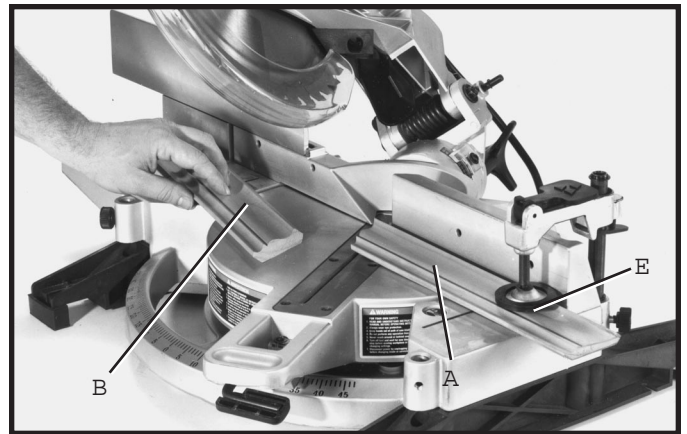
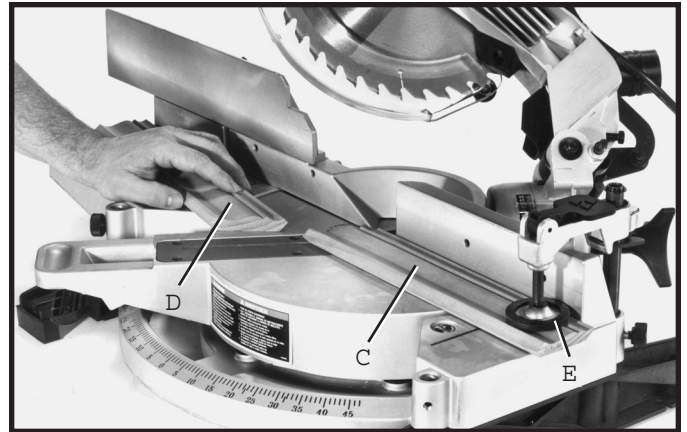
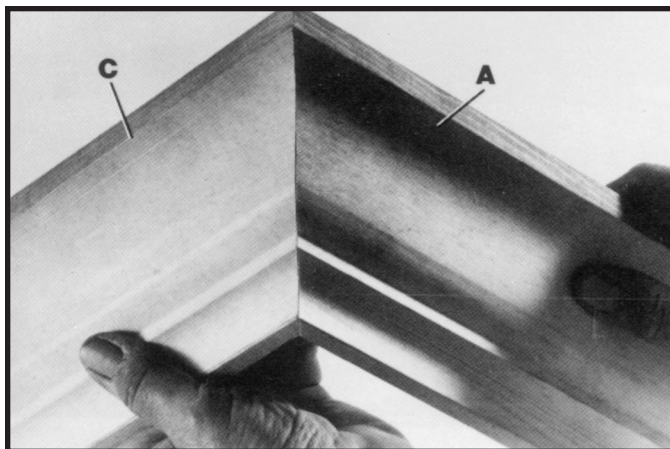
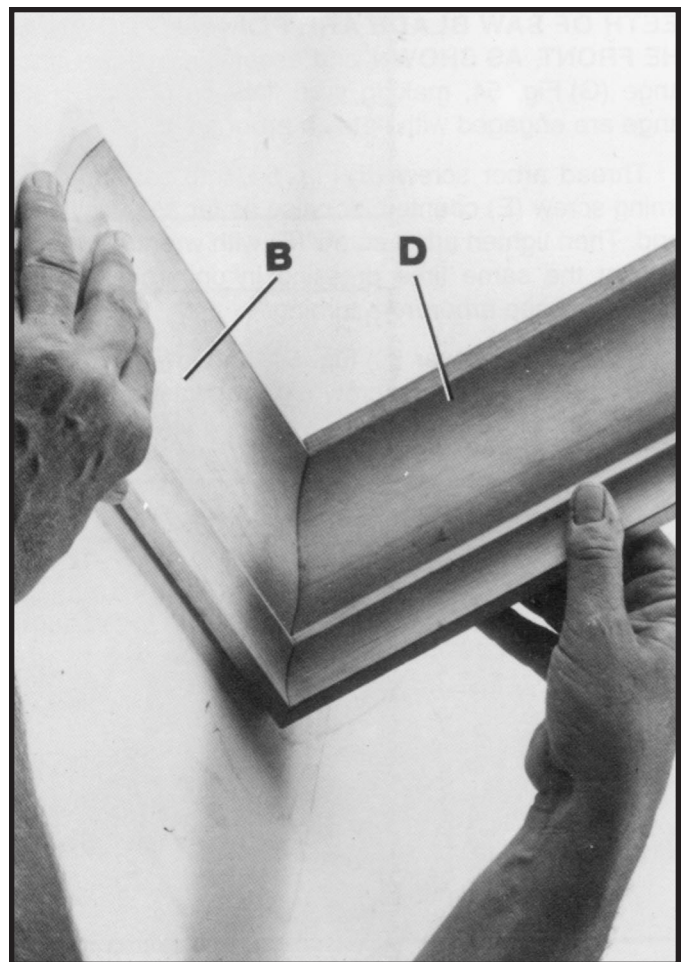

Fig. 49
Fig. 50
Fig. 51
Fig. 52
3. Place the crown moulding on the table with the CEILING EDGE of the moulding against the fence, and make the cut, as shown in Fig. 49. NOTE: The piece of crown moulding used for the outside corner will always be on the right hand side of the blade, as shown at (A) Fig. 49. The piece of crown moulding used for the inside corner will always be on the left hand side of the blade, as shown at (B) Fig. 49. Note that the standard equipment work clamp (E) is being used to hold the workpiece in position.
5. Place the crown moulding on the table with the WALL EDGE of the crown moulding against the fence and make the cut. Again, the piece of crown moulding used for the outside corner will always be on the right side of the blade, as shown at (C) Fig. 50. The piece of crown moulding used for the inside corner will always be on the left side of the blade, as shown at (D) Fig. 50. Again, the standard equipment work clamp (E) is being used to hold the workpiece in position.
6. Fig. 51, illustrates the two outside corner pieces; (A) being the piece cut at (A) Fig. 49, and (C) being the piece cut at (C) Fig. 50.
7. Fig. 52, illustrates the two inside corner pieces; (B) being the piece cut at (B) Fig. 49, and (D) being the piece cut at (D) Fig. 50.